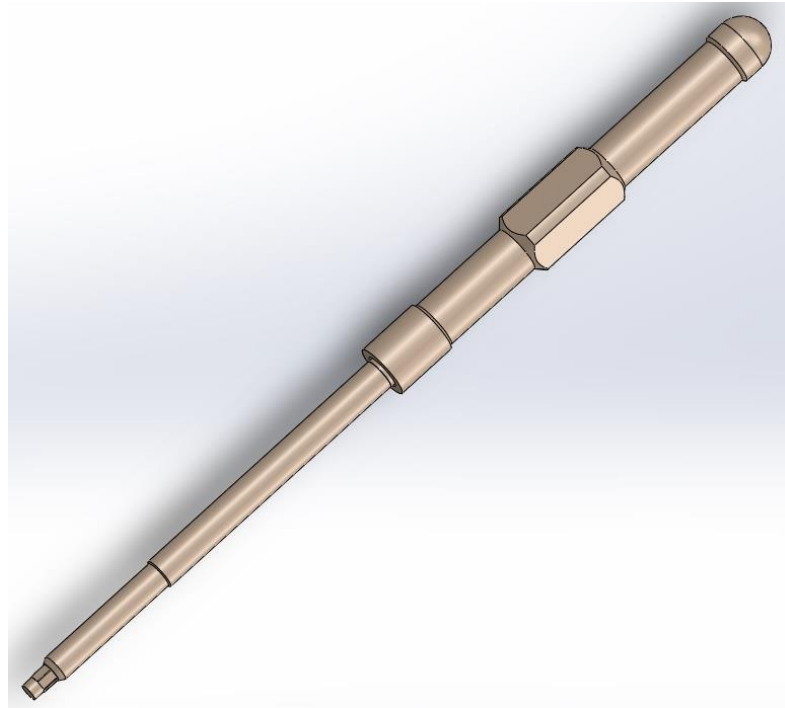

Figure 1 - M6 Driver in the Axial Configuration
2. Insert the Oval shaped end of the Driver into the mating slot on the Handle in the axial configuration as shown in **Figure 1**.